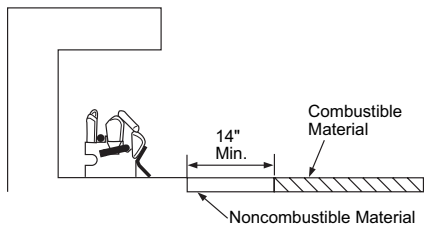

Figure 8 - Minimum Fireplace Clearances If Installed at Floor Level
A. If installing appliance on floor level, you must maintain the minimum distance of 14" to combustibles (see Figure 8 page 11).